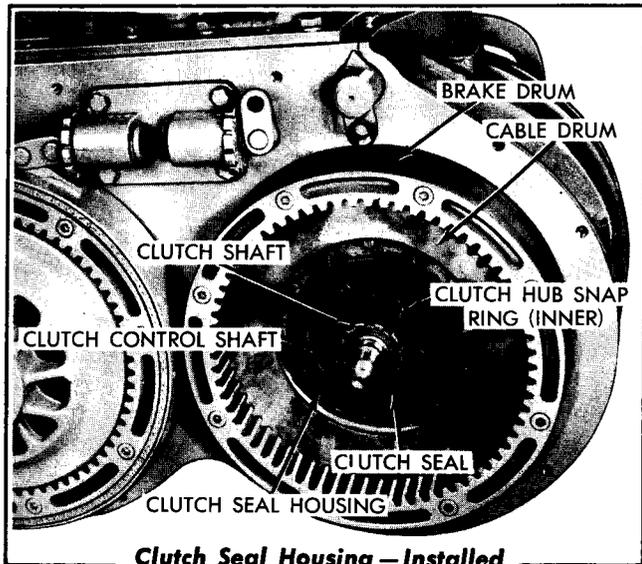

FIG. 25
2. Remove the 6 capscrews and lockwashers attaching the clutch seal housing (Fig. 25) to the cable drum. The seal housing is provided with 2 tapped holes for puller screws; if the seal housing is tight, use two capscrews in these holes to free the housing.
9. Install the clutch seal housing (Fig. 25), replacing the oil seal and the seal housing gasket if necessary. Secure the seal housing to the cable drum with 6 capscrews and lockwashers.
10. Install the inner snap ring for the clutch hub (Fig. 25). Install the clutch hub in position on the clutch shaft and install the clutch hub snap ring (Fig. 20).
6. Remove the 6 capscrews and lockwashers attaching each clutch seal housing (Fig. 25) to the cable drum. Each seal housing is provided with 2 tapped holes for puller screws; if the seal housing is tight, use two capscrews in these holes to free the housing and remove each housing.